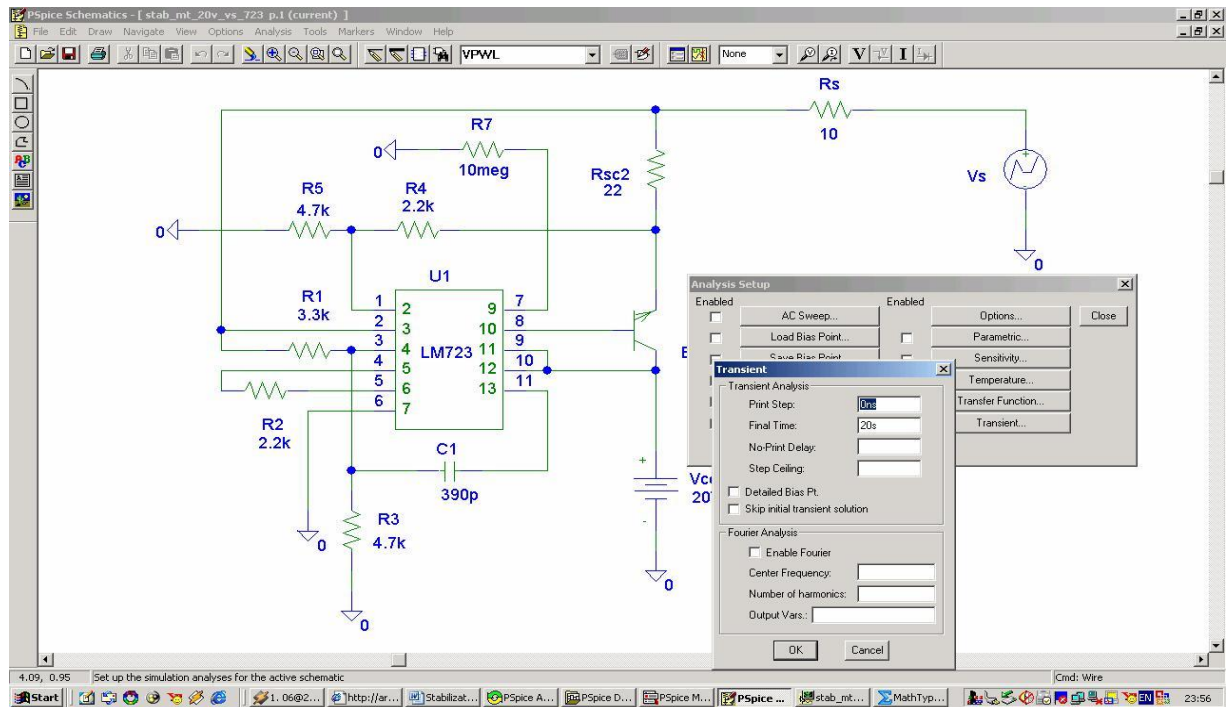

Fig.14. Setting the simulation time for $V_o > V_R$ case
5. The load of the voltage regulator is replaced by a fixed resistor in series with a variable voltage source V_S . The V_S will be a VPWL type with the following parameters: $T1=10$, $V1=0$; $T2=10$, $V2=12$. The simulation time will be set to 20s (Fig.14).